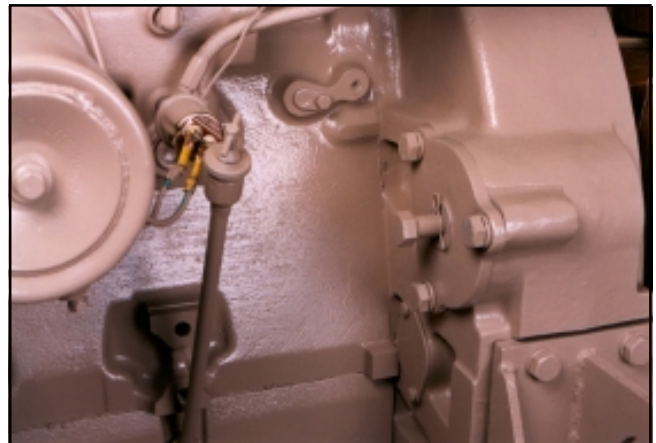

Fig. 7-9. Engine barring arrangement — KV Engine
**Note :** Do not use the fan to rotate the engine. Remove the shaft retainer clip. Fig. 7-9, and press the shaft inward until the barring gear engages the drive gear; then advance. After the adjustments are complete, retract the shaft and install the retainer clip into the safety lock groove.